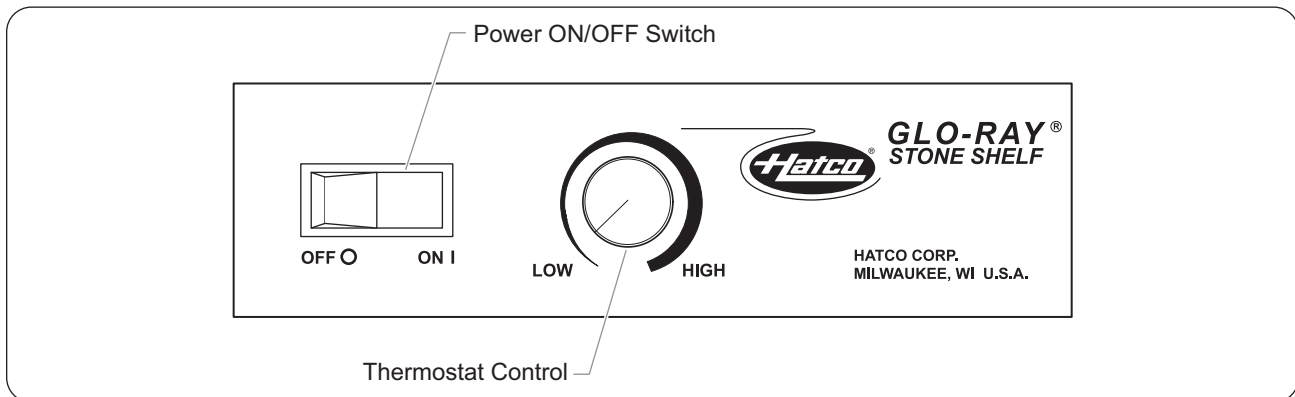

Figure 11. Standard Control Panel
2. Move the power ON/OFF switch to the ON position (see Figure 11).